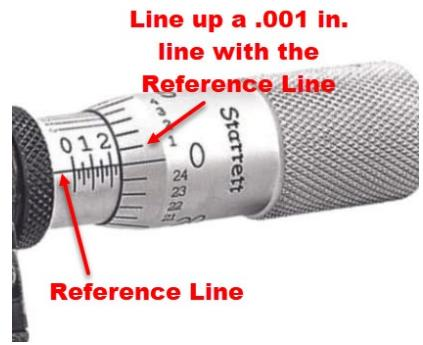

Figure 7 – L-705 Laser showing Nominal settings
9. Set the laser micrometer to the **Nominal** settings (Figure 7) and turn the bubble level vial to the 12 o'clock position.
Ensure the R-1307 *Vertical* display reads zero (see step 10). Turn the micrometer one full turn (-.0250 in.) counterclockwise and record the result (see Figure 7). The difference between the actual reading and -.025 in. is typically less than .002 in. Record the value. Return the readout Vertical display to zero by rotating the Vertical micrometer one full turn in the clockwise direction.